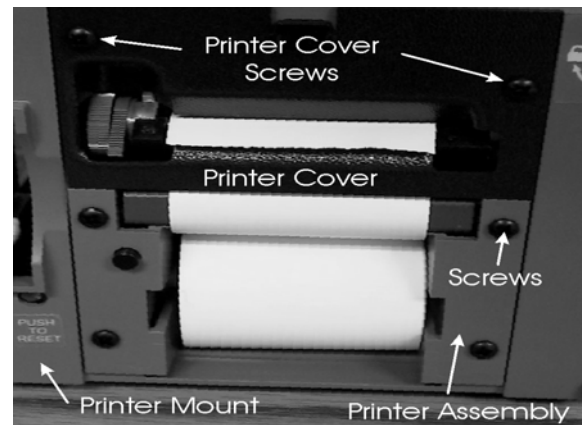

Figure R3-1, Printer Parts ID
1. Open the Printer Door and pull the Latch Finger Assembly completely out of the Latch (Fig.3,11) using a pair of pliers. Refer to Figure R3-1.